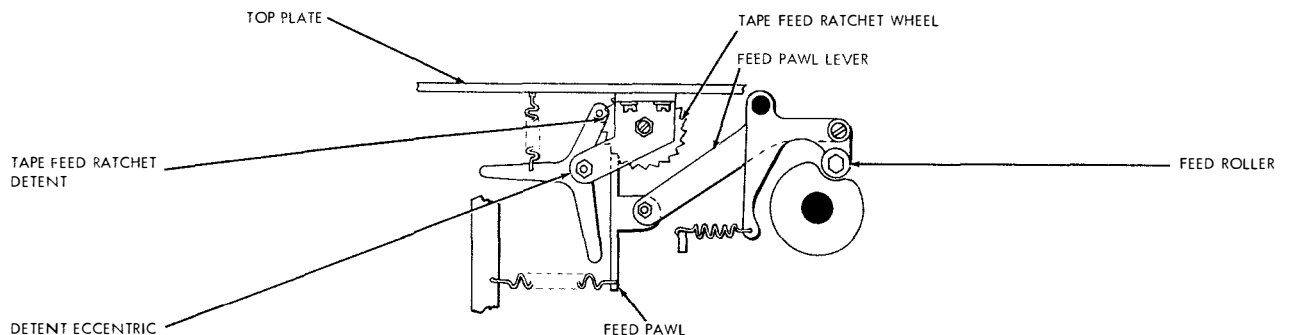

Figure 7-97. Feed Wheel Detent
(31) FEED WHEEL DETENT. (See figure 7-97.)—Select a piece of tape (regular or chadless tape) with a series of LETTERS perforations checked for 10 holes to the inch. With the detent roller resting in an indent between two teeth of the tape feed ratchet wheel, rotate the cam sleeve until the tape pins are flush with the bottom of the tape. Engage the feed perforations of the tape with the feed wheel so that the LETTERS perforations are directly over the tape pins. When the play of the tape on the feed wheel is taken up in the